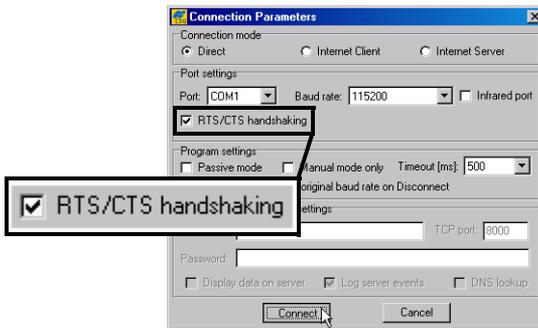

Figure 4-1. Connection Parameters – RTS/CTS Handshaking
2. On the **Connection Parameters** dialog box, enable **RTS/CTS handshaking** and then click **Connect** (Figure 4-1 on page 4-2).
4. On the **Connection Parameters** dialog box, enable **RTS/CTS handshaking** and then click **Connect** (Figure 4-1 on page 4-2).